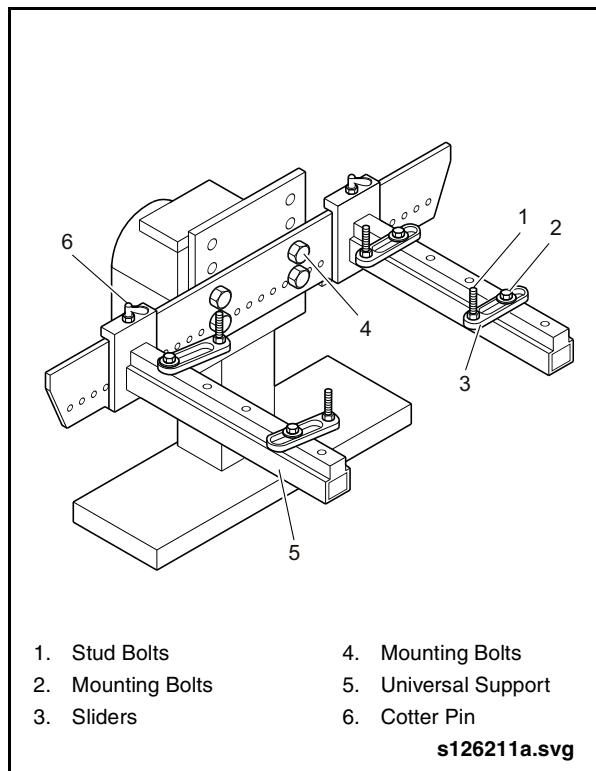

Fig. 2-45: Universal Support
1. Install the Universal Support (Item 48 from Special Tools List) on the Engine Stand (Item 79 from Special Tools List) and tighten the mounting bolts. See "Fig. 2-45: Universal Support" on page 44.